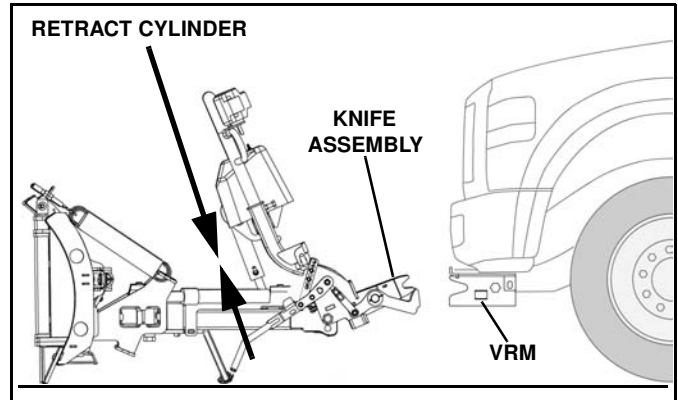

Figure 1-31
3. Retract the lift cylinder (raise the plow) until the A-Frame contacts the stacking stop. (See Figure 1-31).